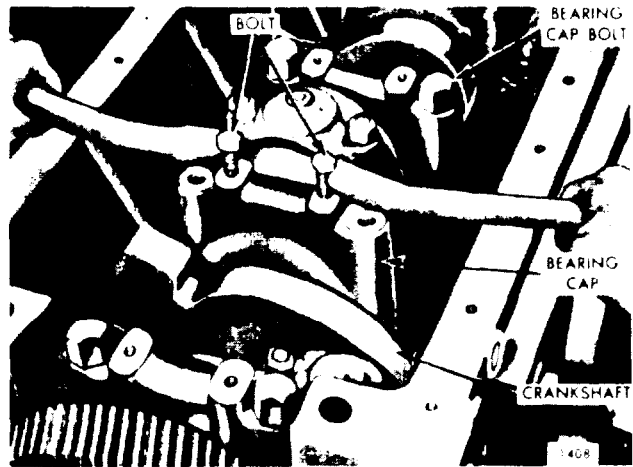

Figure 11B-87. Removing Main Bearing Cap
3. Remove one main bearing cap at a time (Figure 11B-87) and inspect the bearing shell as outlined under "Inspection". Reinstall each bearing shell and bearing cap before removing another bearing cap:
- A. To remove all except the rear main bearing shell, insert a 1/4" x 1" bolt with a 1/2" diameter and 1/16" thick head (made from a standard bolt) into the crankshaft journal oil hole. Then revolve the shaft to the right (clockwise) and roll the bearing shell out of position as shown in Figure 11B-88 on page 11B-58. The head of the bolt must not extend beyond the outside diameter of the bearing shell.
- B. Remove the rear main bearing upper shell by tapping on the edge of the bearing with a small curved rod, revolving the crankshaft at the same time to roll the bearing shell out as shown in Figure 11B-89 on page 11B-58.